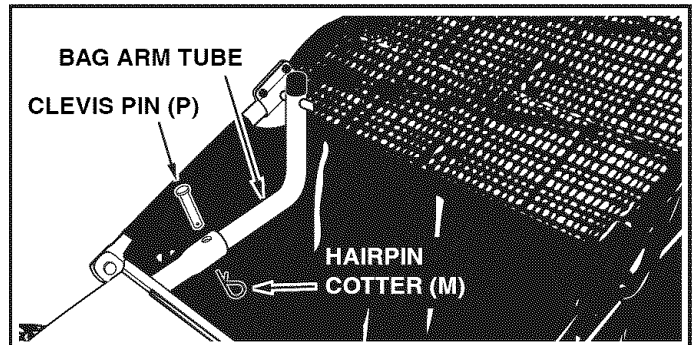

FIGURE 19
- To attach the hopper bag to the sweeper, slide the ends of the bag arm tubes into the ends of the hitch tubes and secure with two clevis pins (P) and hairpin cotters (M). See figure 19.
- To adjust your sweeper brushes to the best operating height, loosen the adjustment knob and push down on the height adjustment handle to raise the brush, or push up on the handle to lower the brush. See figure 19. Best adjustment is when the brush setting is 1/2" down into the grass. Always mow the grass to an even height before sweeping.